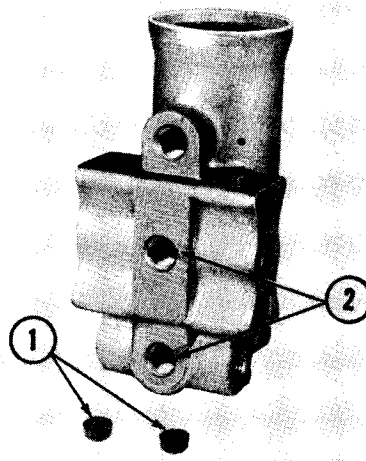

Figure 13-15
Install new filter screens (1, Fig. 13-15) in the unloader and reservoir ports (2) in the governor body. The screens can be inserted with the blunt end of a pencil.